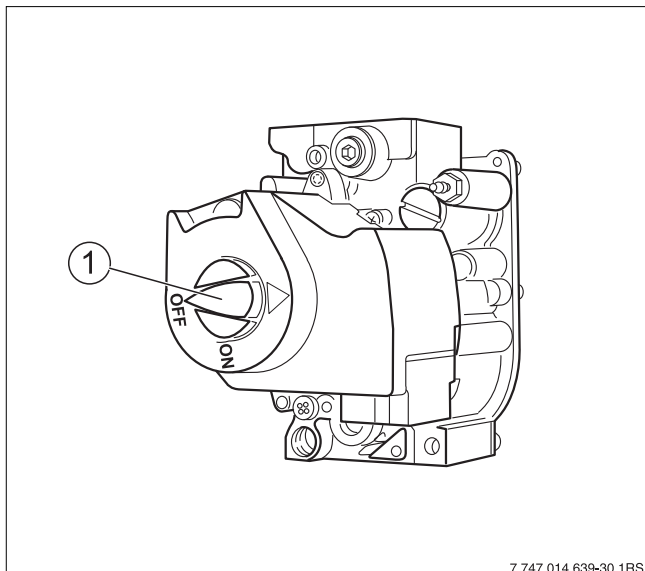

Fig. 2 Gas valve
- Wait five (5) minutes until all remaining gas has dissipated.
- Never use force to operate the ON/OFF knob (→ Fig. 2).